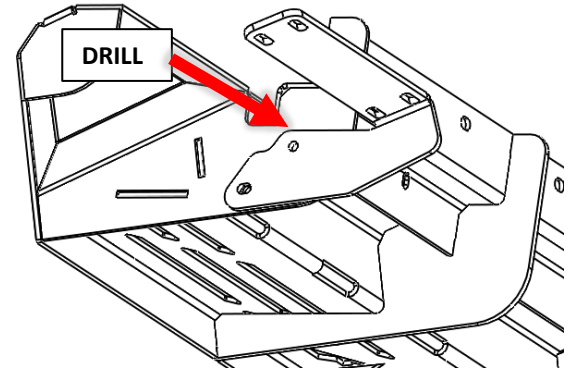

Figure 11: Drilled Hole to Lock Rotation of Step
12. Once the 90 degree bracket is bolted firmly onto the van, drill the second hole into the rear shroud bracing to permanently lock the rotation (Figure 11). Use a $\frac{1}{4}$ " drill bit and $\frac{1}{4}$ "-20 hardware to fasten together.